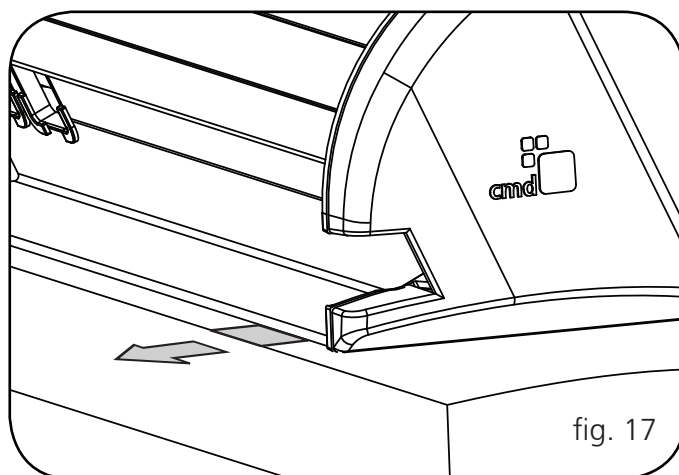

fig. 17
2. Repeat this until all tabs have been removed (fig. 17).